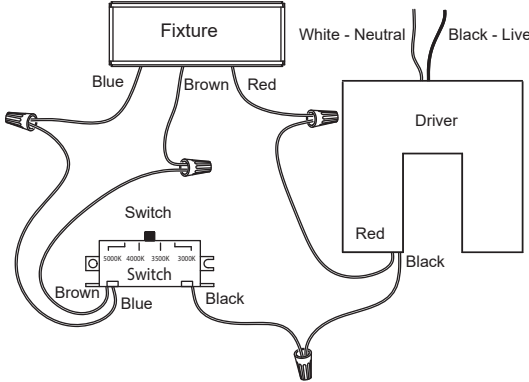

Fig.4
4. Remove the mounting screw (B) from the fixture.
5. The lamp can switch between four color temperatures (3000k-3500k-4000k-5000K), which can be adjusted to your preference with the switch in the fixture(Fig.4).